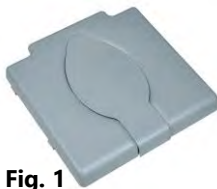
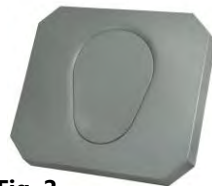

Fig. 1
Fig. 2
4. If necessary you can adjust the height of the chair (if not please continue to item 1.6). This is done by removing the four pin clips from the frame (see fig. 1) and carefully adjust the legs to the chosen height ensuring that all four legs are adjusted to the same height
5. Reinsert the pin clips ensuring that each one passes completely through the whole leg assembly (see fig. 2). **NB. Failure to insert the pin clip properly can result in serious injury to the user.**
1. Carefully remove the two pin clips holding the footrest in place (see fig. 1)
3. Check that both sides of the footrests are adjusted equally and carefully reinsert the pin clips to either side of the footrest, ensuring that the clips pass completely through the frame and the footrest is securely held in place (see fig. 2)
The Bewl comes with a detachable grey horseshoe seat (see Fig. 1) as standard. A pear shaped aperture seat is also available (see Fig. 2) and may be required by the user, based on the risk assessment.